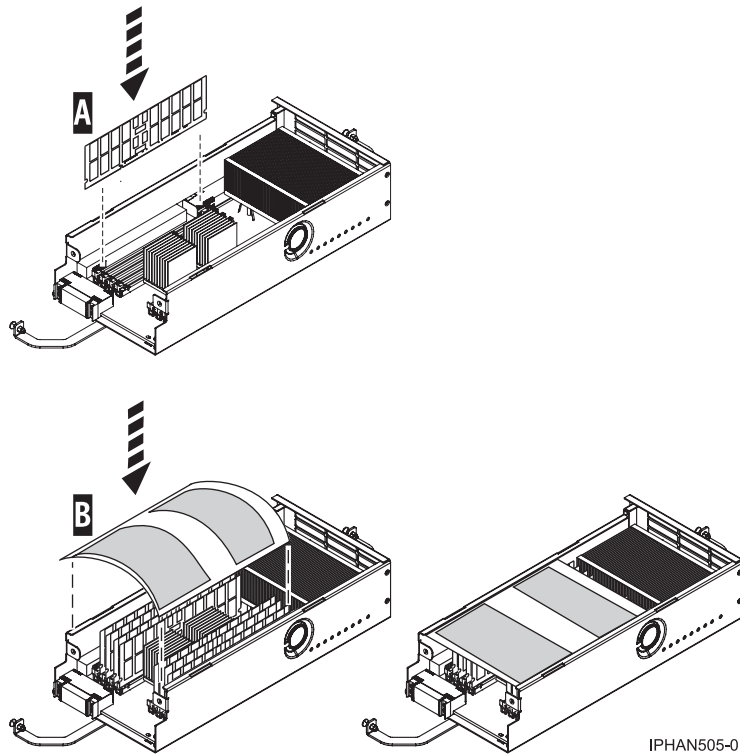

Figure 12. Plastic film cover placed over 4 GB or 8 GB memory modules
8. If you have tall 4 GB or 8 GB memory modules, use the plastic film cover to prevent the memory modules from contacting the lid. When you have finished inserting the memory modules (A), place the plastic film cover (B) over them, as shown in Figure 12 on page 20. If you replace tall 4 GB or 8 GB memory modules with any other size memory modules, remove the plastic film cover. Failing to remove the plastic film cover might restrict airflow in the unit.